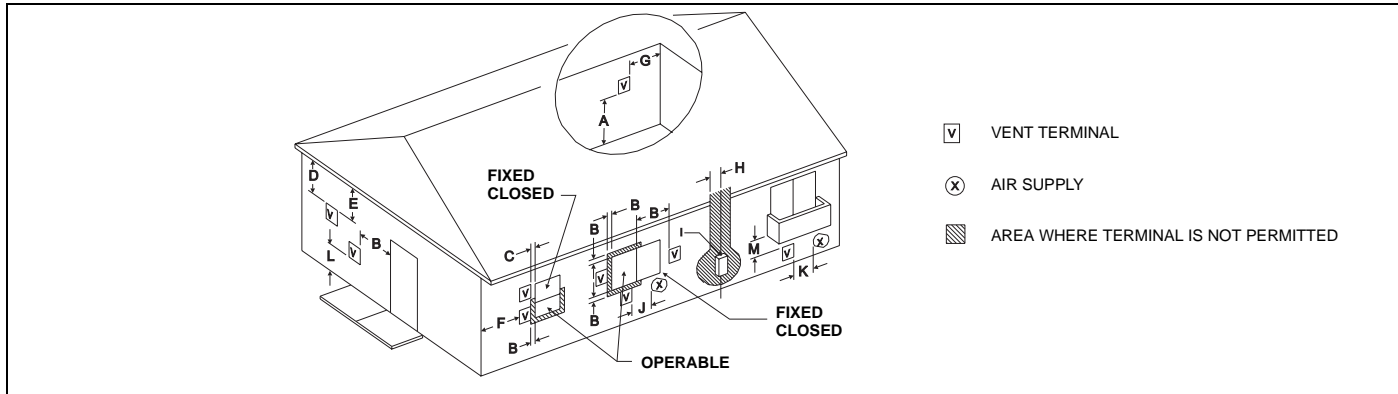

FIGURE 16: Home Layout
7. A vent drain is required when vent passes through any unconditioned space such as an attic or crawl space in order to prevent the accumulation of excess condensate in the inducer motor during operational cycles, refer to Figure 16 and "VENT DRAIN".